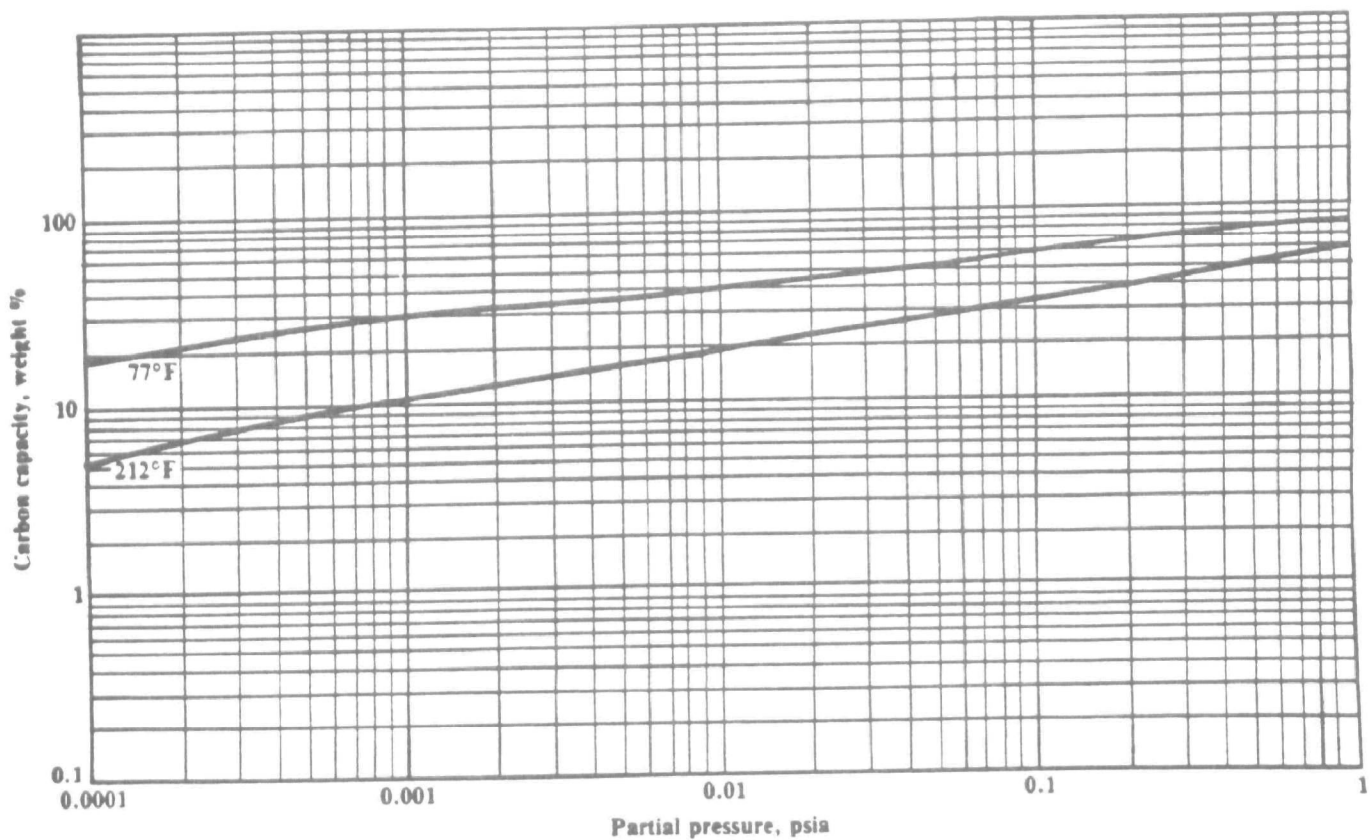

Figure 4-1. Adsorption isotherm for carbon tetrachloride.
- isotherms—Figures 4-1 and 4-4 on pages 18-8 and 18-9 respectively